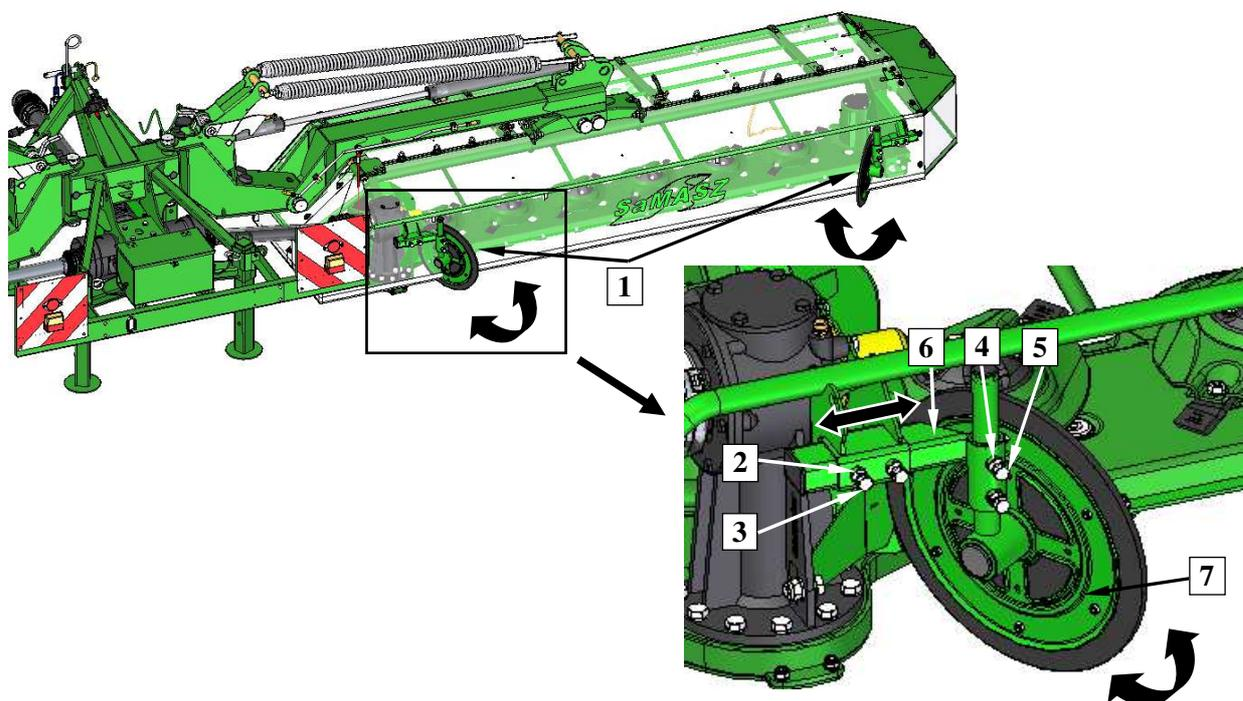

Fig. 33. Adjustment of swath guides: 1 - swath guide, 2 - locknuts, 3- arm adjustment screws, 4 - locknuts, 5- shield adjustment screws, 6- guide arm, 7- shield
Swath width is adjusted with swath guides (1) mounted on the 3-point linkage frame of the cutterbar (**Fig. 33**).